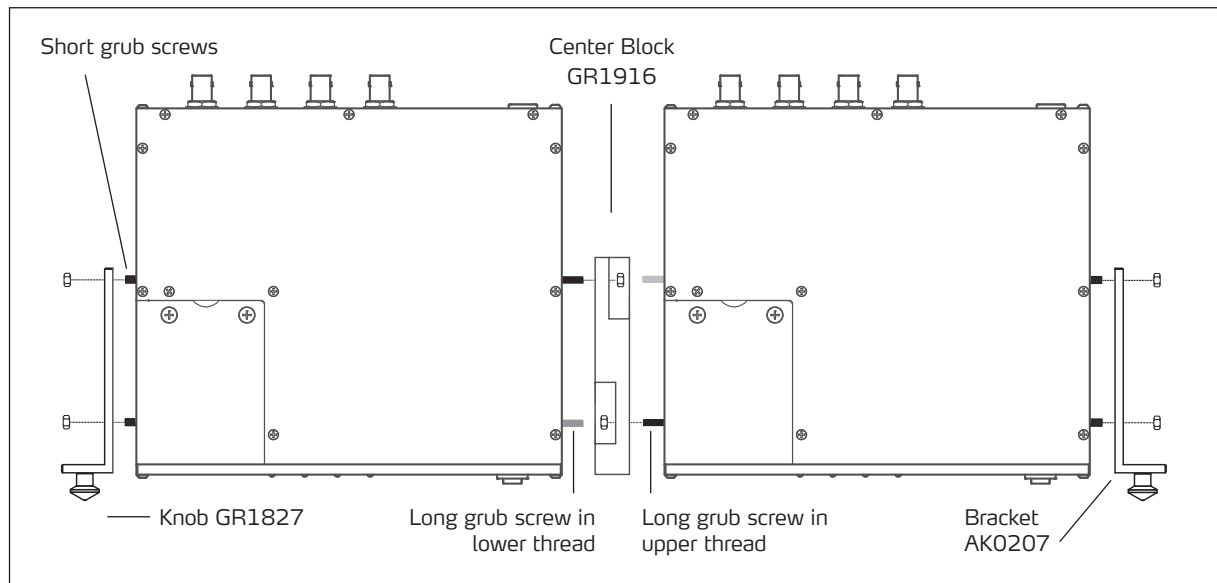

Fig. 5. The fittings for rack mounting. The long grub screws for use in the lower threads are shown dimmed.
1. Mount two grub screws onto each of the two inward-facing side plates, as deep as they will go. Please note how two screws use the upper thread, the other two the lower thread, as shown in Fig. 5. The grub screws in the lower thread are shown dimmed.